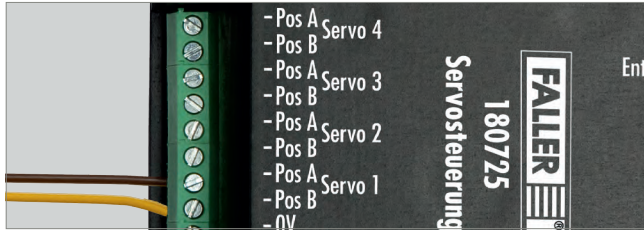

Fig. 5: Connecting push buttons
- ▶ Connect one or several push buttons to one or several of the »Pos A Servo 1« to »Pos A Servo 4« ports and »Pos B Servo 1« to »Pos B Servo 4« ports on the Servo Control, see Fig. 5.